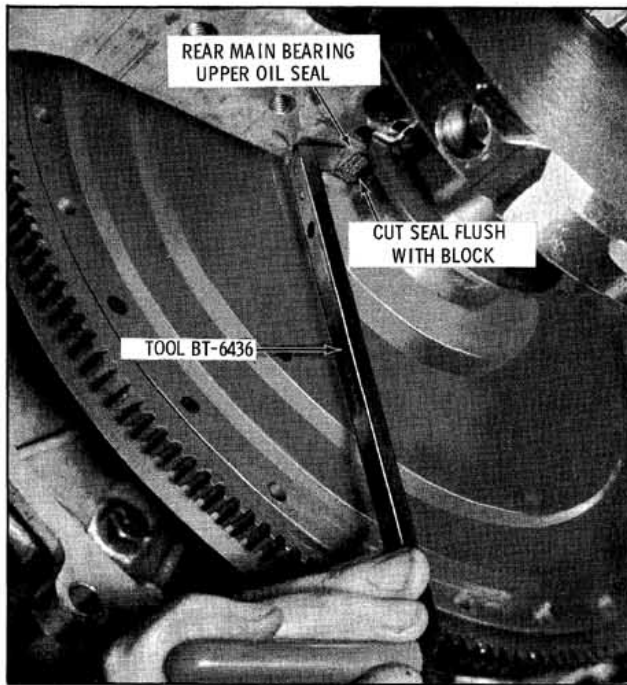

Fig. 3-108 Cutting Off Upper Seal Ends
6. Work these two pieces of seal into the cylinder block (one piece on each side) with two small screwdrivers. Using Packing Tool, pack these short pieces up into the block. Use Seal Trimming Tool BT-6436 to trim seal flush with block as shown in Fig. 3-108.